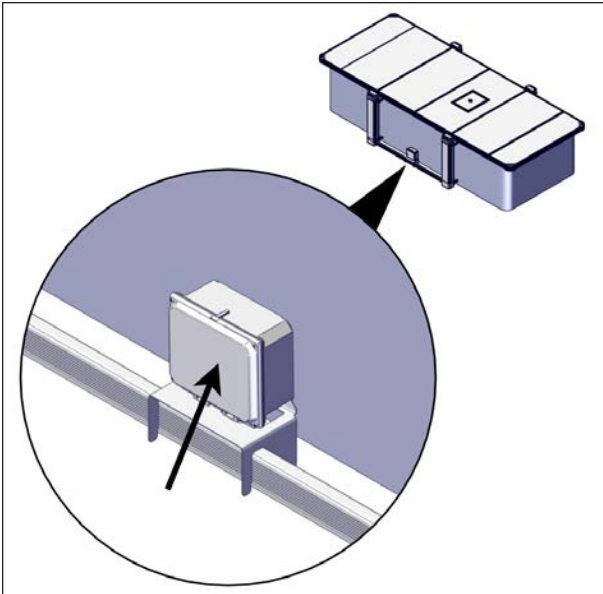

FIGURE 91: CONTROL BOX INSTALLATION
1. Install the pre-assembled control box and its holding bracket on one of the U-frames between the two sleeves, see Figure 91.
The AC control box must be installed in its vertical position. The connectors must face the ground, see Figure 91.